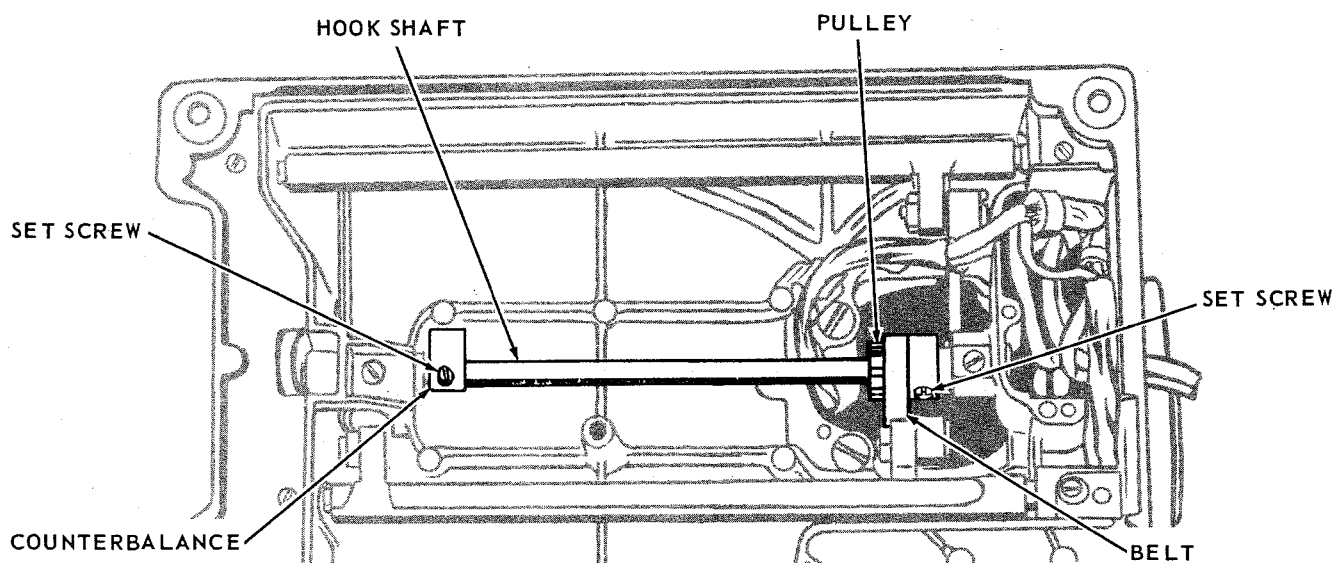

Fig. 41. Removing Hook Shaft
2. Loosen set screws in hook shaft pulley, Fig. 41, counterbalance and hook assembly. Remove old shaft out through left end of machine. **Do not use new shaft as a tool.**